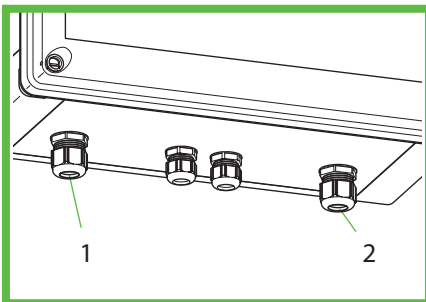

Figure 13: Connections
- ▶ Guide the electric supply line through the cable gland (Figure 13, Pos. 1).